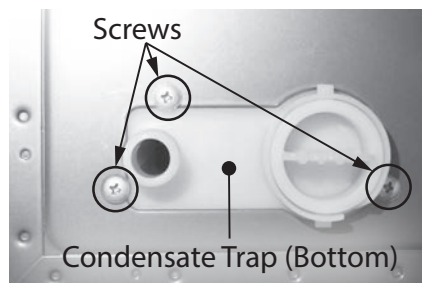

Figure 199 - Location of condensate trap screws.
7 The condensate trap drain is located underneath the water heater (see Figure 199). Disconnect drain piping to the plastic condensate drain. Place a bucket or pan underneath to collect water during removal.
12 Locate the three (3) screws underneath the water heater securing the condensate trap. See Figure 199. Use a Phillips screwdriver to remove the screws. Place screws aside in a safe place for reinstallation.